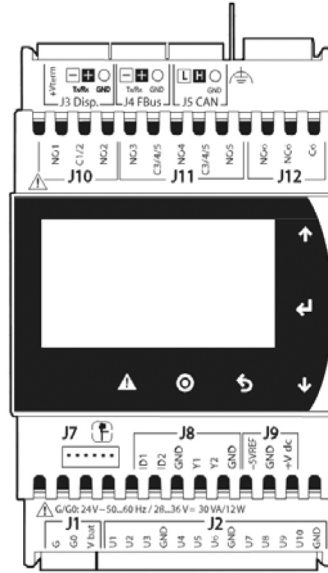

Figure 1
4. LW Controller Details (Figure 1)
Your Desert Aire CM3540 Controller is pre-programmed and configured at the factory for use in the application specified. The internal display (IDT – Figure 1) allows the operator to monitor the operation and adjust the set points of your Desert Aire LW dehumidifier.